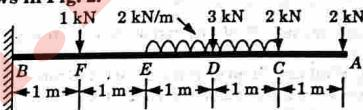

Fig. 2.
- Q. 4. Draw the S.F. and B.M. diagrams for a cantilever loaded as shows in Fig. 2.